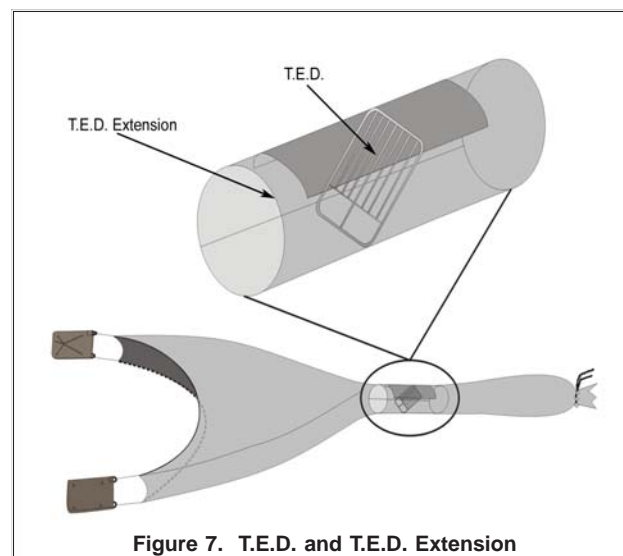

Figure 7. T.E.D. and T.E.D. Extension
**38. T.E.D. EXTENSION MESH SIZE:** Record, to the nearest tenth of an inch, the mesh size of the T.E.D. extension or the webbing surrounding the T.E.D. This measurement should be taken 3-5 meshes forward of the leading edge of the grid. These measurements should be stretched inside knot to knot taken in the direction in which the mesh is hung. See Figure 7.